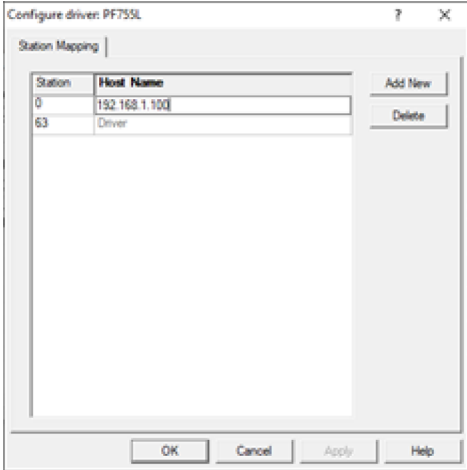

Fig. 26 — Station Mapping
- 3. Set Host to the same address as the computer IP address. See Fig. 26.